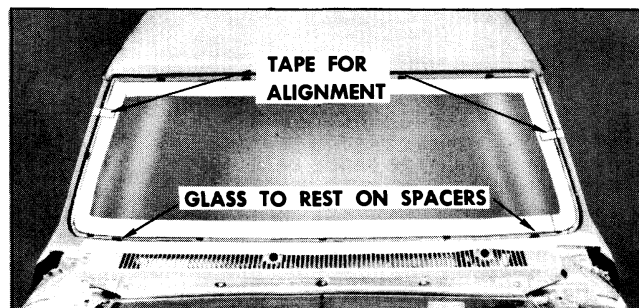

Fig. 11-9 Glass Alignment in Opening
Mark glass to windshield pillars with tape to assist in proper alignment at time of installation (Fig. 11-9).
While one man holds glass in this position, the second man can reach around the windshield pillar and hold glass; then, first man can reach around windshield pillar (Fig. 11-7). Carefully position glass to plane of opening, making certain that glass is properly centered and positioned to opening and resting on lower spacers, using tape on glass and windshield pillars as a guide, (Fig. 11-9).
7. Set glass in opening and shim glass spacers as necessary to properly align glass to opening. Glass should overlap pinchweld flange 3/16" minimum. Mark glass to windshield pillars with tape to assist in proper alignment at time of installation (Fig. 11-9).
(Fig. 11-7). Carefully position glass to plane of opening, making certain that glass is properly centered and positioned to opening and resting on lower spacers. Use tape on glass and windshield pillars as a guide. (Fig. 11-9).